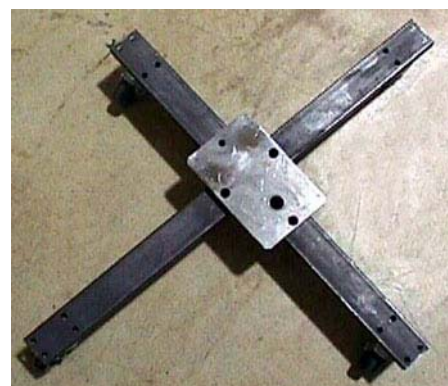

Figure A-5 Front Cover Dolly base and stand disassembled
- 1.) Arrange the dolly sections for assembly. The base and stand can be assembled only one way (see Figure A-5).
- The stand has a large stud and three (3) smaller studs that engage the base assembly.
- 2.) Unfold the base (as shown in Figure A-5) and place it on a flat surface.